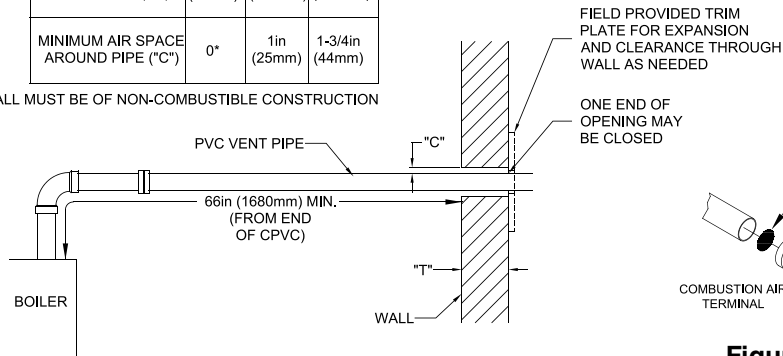

Figure 4-32: Wall Penetration Clearances for PVC Vent Pipe
- Following the installation of factory supplied near boiler CPVC venting components (30 in. long pipe and 90° elbow, where applicable) **PVC pipe may be used to penetrate combustible or non-combustible walls up to the exterior vent termination only if the following three conditions are met simultaneously** (see Figure 4-32):
3. The minimum air space shown in Figure 4-32 is maintained around the outside of the vent pipe to provide air circulation.
- Install contractor provided optional trim plate on wall outside surface to cover wall opening (see Figure 4-32).